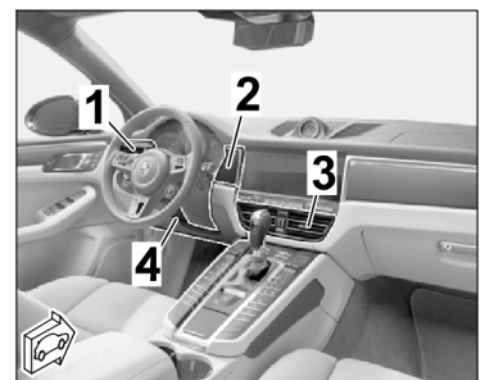

Figure 5 (LHD vehicle)
1.5.1 Removing trim panel under dashboard (left side.):. ⇒ *Figure 5 (LHD vehicle) -4-*